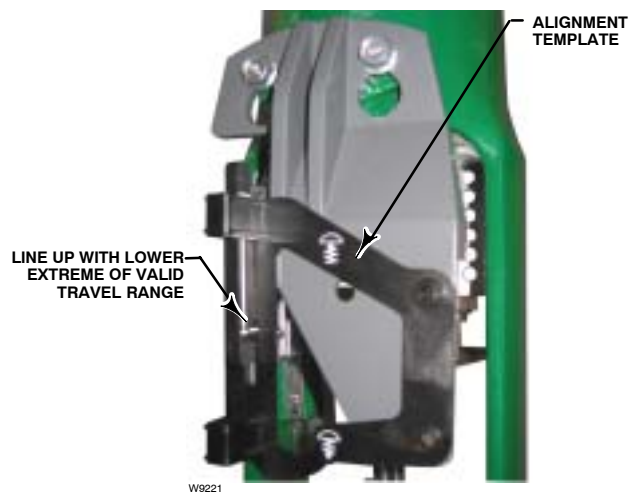

Figure 2-6. Air-to-Close Magnet Array Alignment
4. Vertically align the magnet array such that the center line of the alignment template is lined up as close as possible with the lower extreme of the valid travel range on the feedback array. See figure 2-6.